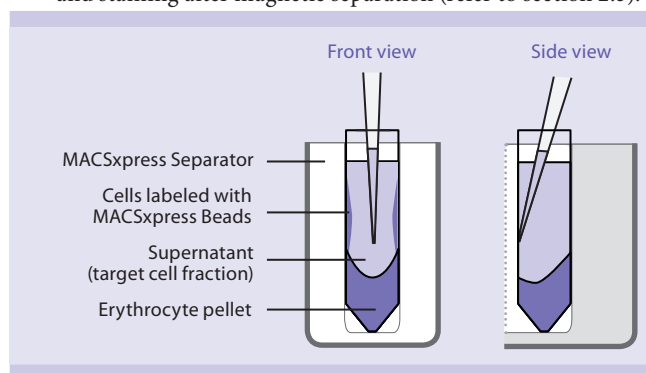

Figure 1: Front and side view of the MACSxpress Separator containing a separated blood sample in a 50 mL tube.
3. While the tube is still inside the MACSxpress Separator, carefully collect the supernatant in a new 50 mL tube. For optimal recoveries, collect supernatant by moving the pipette tip top-to-bottom down the front wall of the tube (fig. 1). The supernatant contains the target cell fraction.